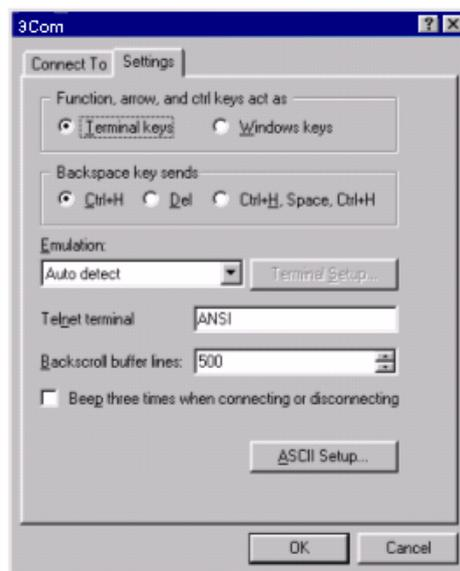

Figure 3-5 Setting the terminal type
Step 8: In the Properties dialog box, select the Settings tab, as shown in Figure 3-5.